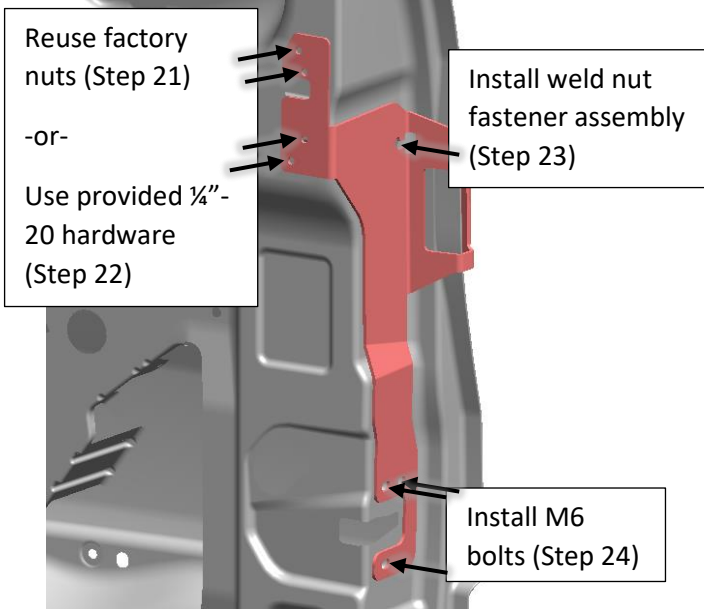

Figure 31: Final Fastener Installation Verification
- 25. Ensure proper alignment between all mounting locations and tightening all hardware down. Reference Figure 31.